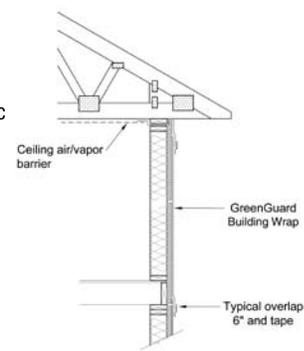

FIGURE 1: EXTERIOR WALL CROSS-SECTION
1. Install building wrap over structural sheathing board, over insulation board (see Figures 1 and 2), or directly to framing members.